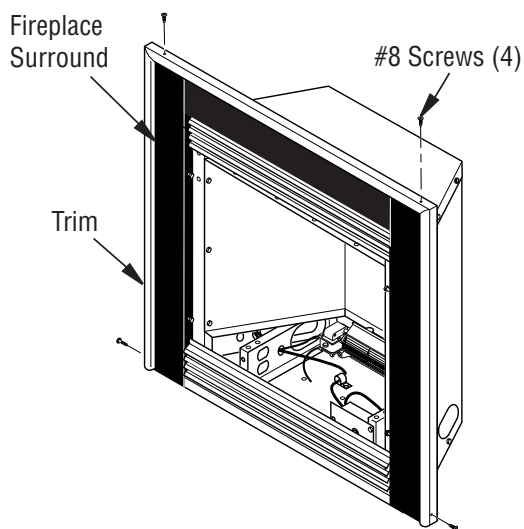

Figure 22 - Attaching Trim to Fireplace Surround
9. Install trim after final finishing and/or painting of wall (see **Figure 22, Page 14**).
8. Line up holes in surround trim with holes on side panels of fireplace surround assembly. Attach with screws provided (see *Figure 22*).